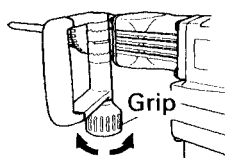

Fig. 6
- (1) Loosen the handle by turning the grip in the direction of (A) as shown in Fig. 6.